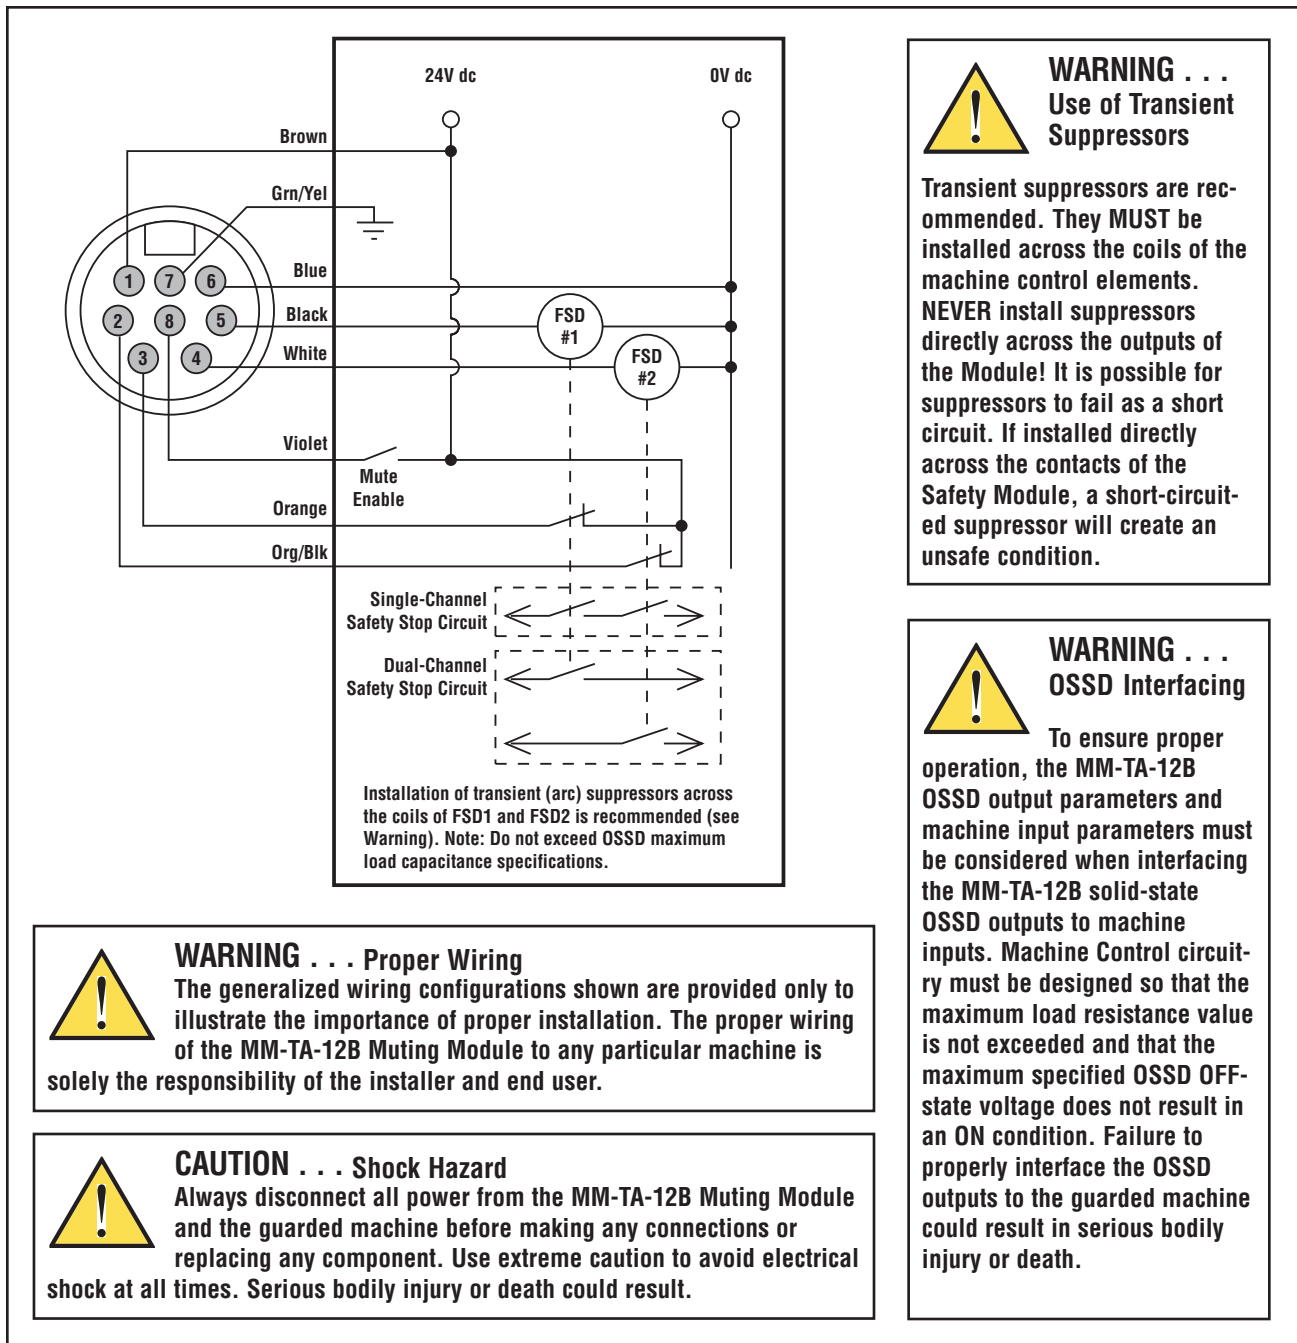

Figure 3-17. Generic hookup: FSD, two-channel EDM, Mute Enable
The generalized wiring configuration shown in Figures 3-17, 3-18, and 3-19 are provided only to illustrate the importance of proper installation. The proper wiring of the Safety system to any particular machine is the sole responsibility of the installer and end user.
It is strongly recommended that one normally closed, forced-guided, monitoring contact of each MPCE or external device be wired in order to monitor the state of the MPCEs (as shown in Figures 3-17 to 3-19). If this is done, proper operation of the MPCEs will be verified. MPCE monitoring contacts must be used in order to maintain control reliability.
- **Two-Channel Monitoring** — SW4 Bank A&B = OFF, SW5 Bank A&B = ON (see Figures 3-17, 3-18)
After the initial checkout has been successfully completed, the EDM configuration that disabled the monitoring function must be properly reconfigured. The External Device Monitoring inputs then must be properly connected to the closed monitoring contacts of the MPCEs (see Section 1.10). Refer to the NOTICE Regarding MPCE Monitoring Hookup, at left, and Figures 3-17, 3-18 and 3-19.
Final switching devices (FSDs) typically accomplish this when the OSSDs go to an OFF state. See Figure 3-17.